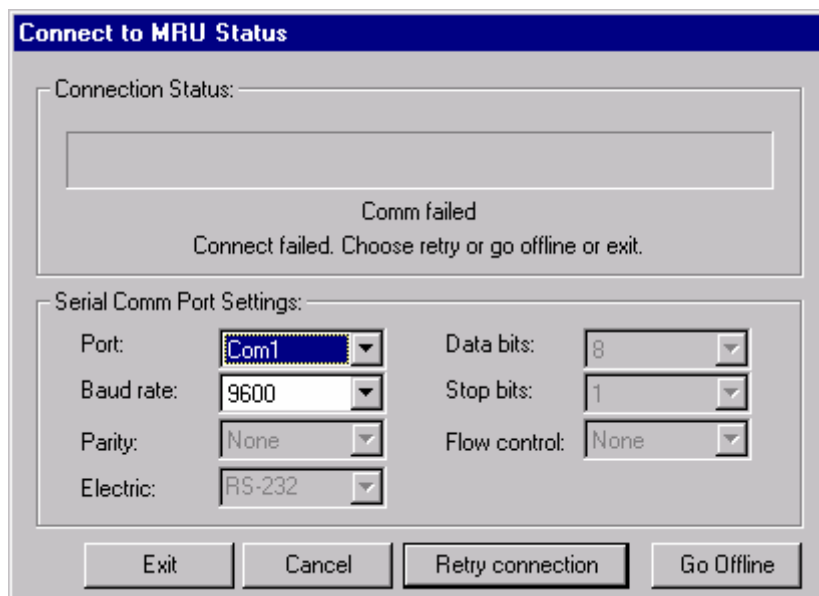

Figure 18 Connect to MRU Status
1. **Connect** - System tries to establish communication with MRU. If connection fails, Figure 18 is shown. Go to chapter 18.2.1.1 for information.
Click the **Connect to MRU** tool button, or pull down the **File** menu and select the **MRC to MRU Communication / Connect**. The **Connect to MRU Status** window becomes active, see Figure 18.